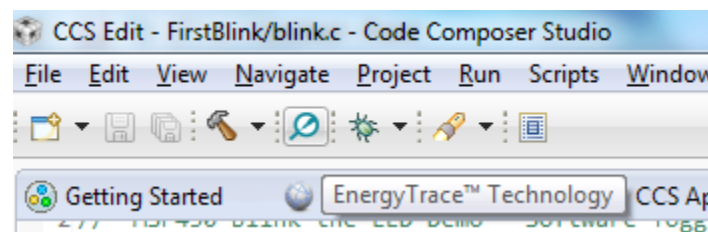

Figure 3-2. EnergyTrace Button in the Toolbar Menu
2. Press the EnergyTrace Technology button in the toolbar menu (see Figure 3-2). You don't need to build or start debug session.